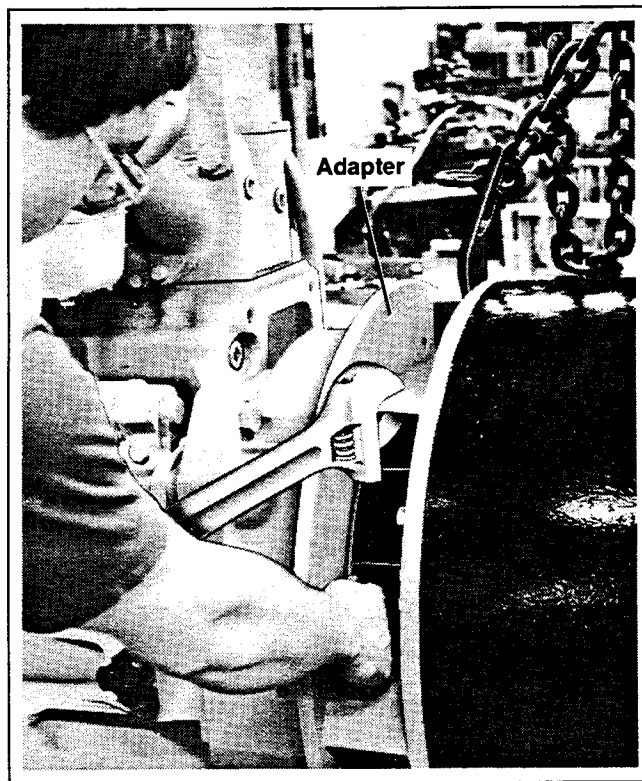

Figure 5-3. Removing Adapter Bolts
10. Remove bolts holding adapter to flywheel housing. See Figure 5-3. Remove nuts or bolts holding fan and drive discs to flywheel.